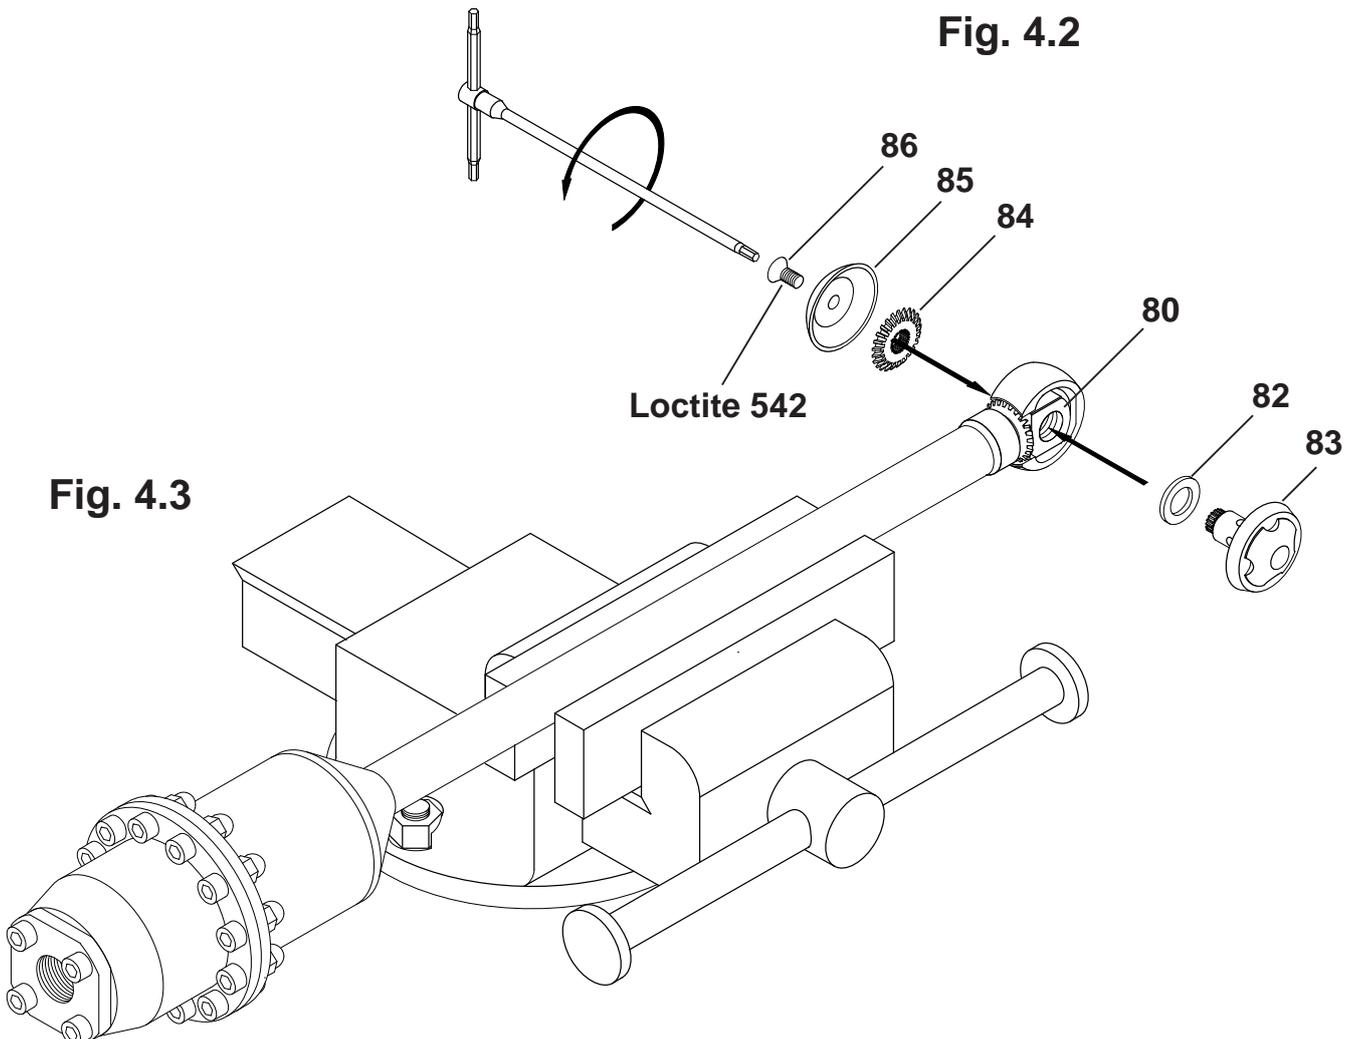

Fig. 4.3
4.08) Fit the protection back in place **pos.85** and lock it with the screw **pos.86** (put two drops of Loctite 572 on the thread) **fig.4.3**.